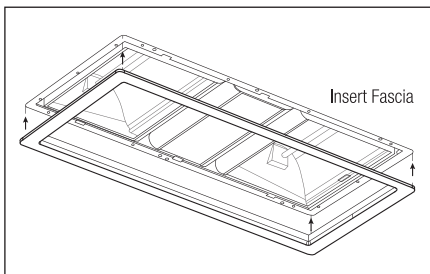

Fig.10
- 4 Attach fascia onto the Tastic body (Fig 10).